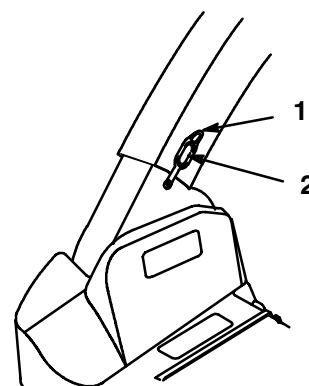

Figure 22
- Unhook the rubber latch onto the knob (Fig. 22).
- Slide the lower end of the discharge tube off the blower discharge opening (Fig. 22). Pull the upper end of the discharge tube out of the bagger top.